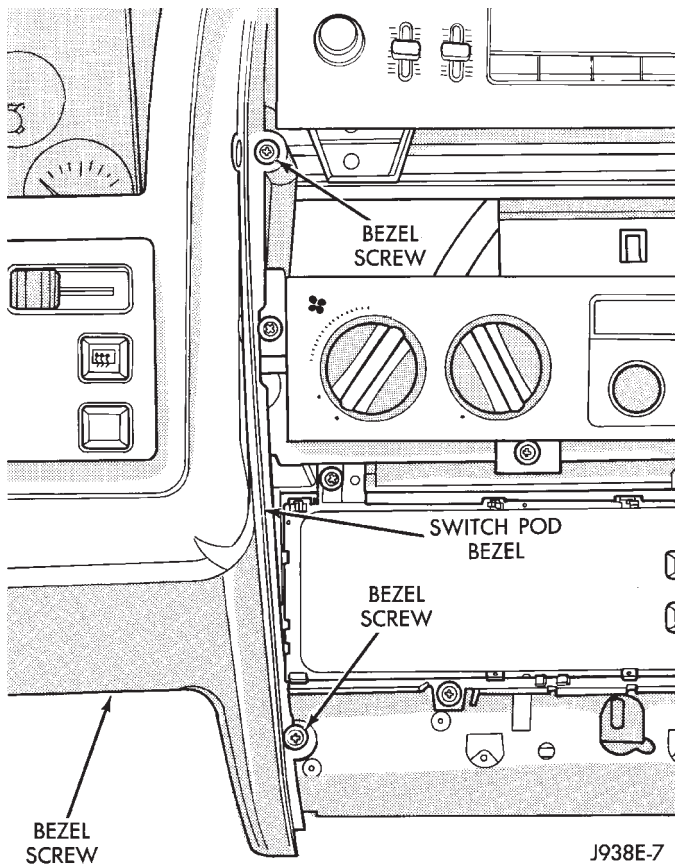

Fig. 9 Right Hand Switch Pod Bezel Screws
(20) Remove 3 screws holding right hand side of switch pod bezel (Fig. 9).